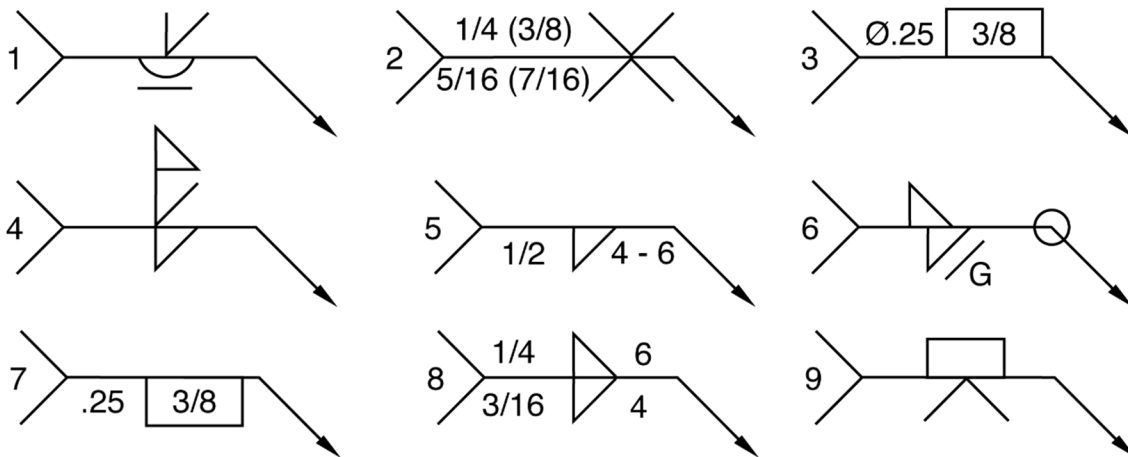

Figure 10
Consider the welding symbols in Figure 10 below for the following questions.
36. Which of the welding symbols in Figure 10 represents an intermittent fillet weld?
37. Which of the welding symbols in Figure 10 (above), represents a groove weld with melt through?
38. Which of the welding symbols in Figure 10 represents a plug weld not completely filled?
39. Which of the welding symbols in Figure 10 (above), represents a groove weld with backing weld or back weld?